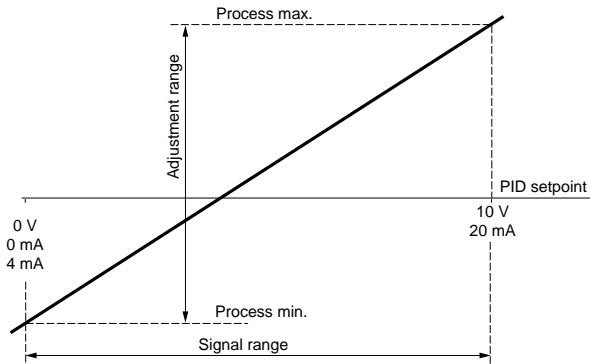

Figure 11: Adjustment Range
- Process max. and process min. correspond to the customer's adjustment range in customer units, as shown in Figure 11 on page 28.